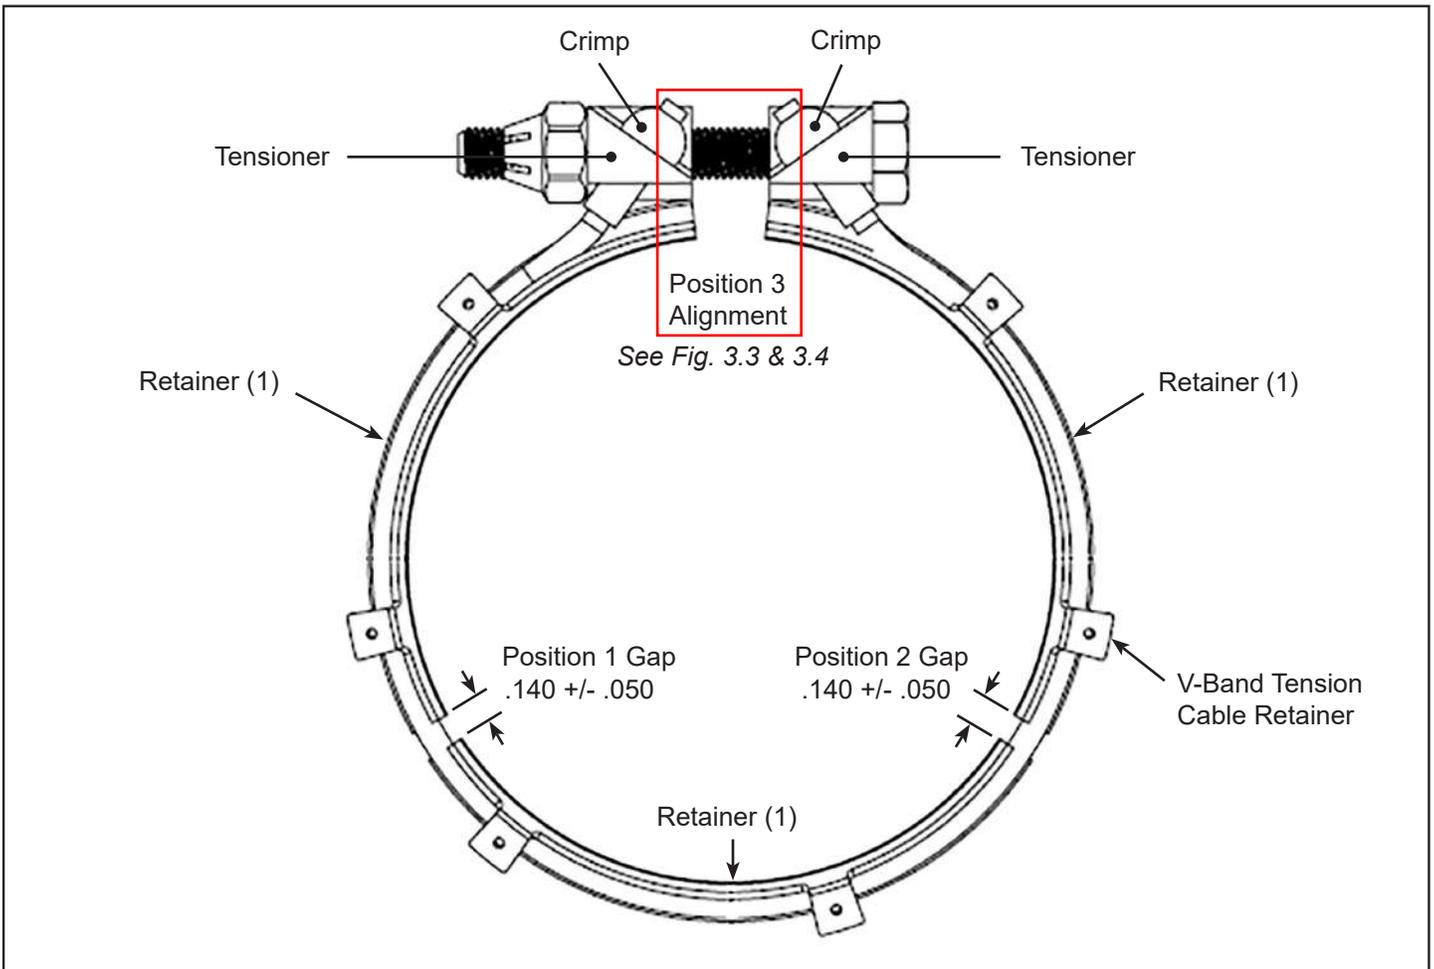

Figure 3.2 - Retainer Position Gap Limits
NOTE 1: Safety wire is provided at each set of V-band tension cable retainers for ease of installation only. Refer to Fig. 3.2.
- (3) Inspect gaps 1 and 2 between the V-band retainers (1) and ensure that gaps exist at both positions shown in Fig. 3-2. The recommended gaps are .140 +/- .050. To obtain the desired gaps, a #2 flat-head screw driver may be placed between the ends of each retainer (e.g., at position 1 and/or 2) and rotated until the gap is achieved.
- (1) After a V-band clamp is installed or reinstalled and torqued, verify there is space between each retainer segment, and verify there is space between both ends of a clamp (Refer to Fig. 3.2). If there is no space between the retainer segment ends or clamp ends, a new coupling/clamp should be installed prior to further flight.
- (2) Relocate or reinstall any systems, cowling or access panels that have been previously removed in accordance with applicable aircraft/engine maintenance manuals and service instructions.
- (3) Conduct an engine ground-run with a full heating and cool down cycle and check the security of the V-band clamp by applying rotational hand force after the engine has cooled. Adjust as necessary per § 3.1 C. above.
- (4) Recheck the security of the V-Band clamp on any new or re-installed V-Band clamp after 25 hrs. time in service (TIS) per Chapter 4, § 4.2.
- (5) If required, refer to aircraft and/or engine maintenance manuals and service documents for troubleshooting the turbocharger exhaust system.